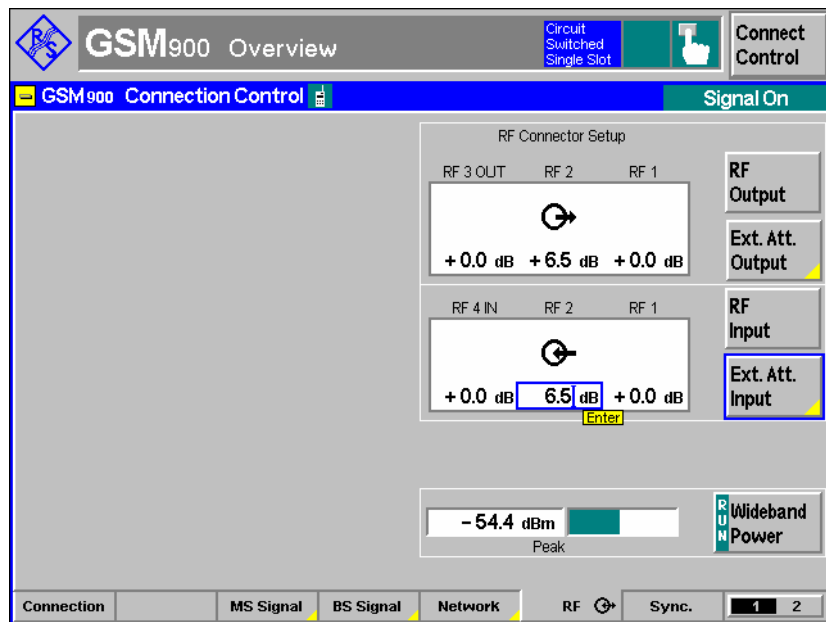

Fig. 5 GSM900 Signalling: AF/RF ↻ tab
5. Press the *Connect. Control* softkey and the *AF/RF* ↻ hotkey to report the coupling factors to the R&S® CMU 200. Set the *Ext. Att. Output* equal to the output coupling factor and the *Ext. Att. Input* equal to the input coupling factor (see Fig. 5 below).
- Press the *Connect. Control* softkey and the *AF/RF*  $\rightarrow$  hotkey to report the coupling factors to the R&S® CMU 200. Set the *Ext. Att. Output* equal to the output coupling factor and the *Ext. Att. Input* equal to the input coupling factor (see Fig. 5 above).